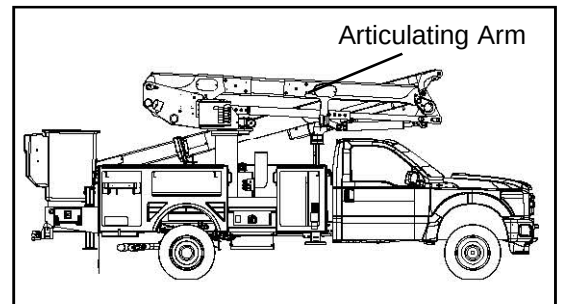

Figure 1 — Articulating Arm
2. Inspect the articulating arm (refer to Figure 1) for four drain holes on the bottom of the arm. Look to see if the holes are plugged with sealant. Remove any sealant or contaminants that seal the holes using a $\frac{5}{16}$ " drill bit so all holes are open.